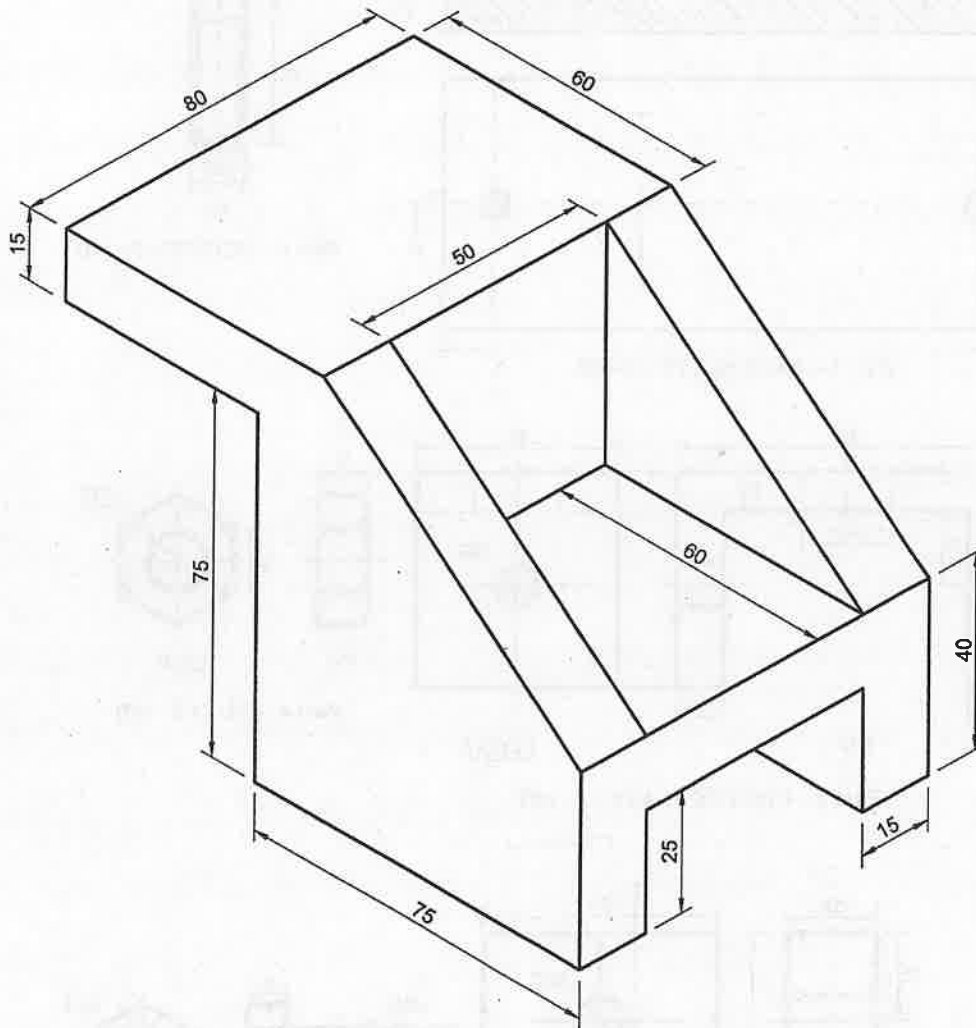

Figure 3
- (i) *Figure 3* given below shows the isometric view of a machine block. Copy the isometric view. [20]